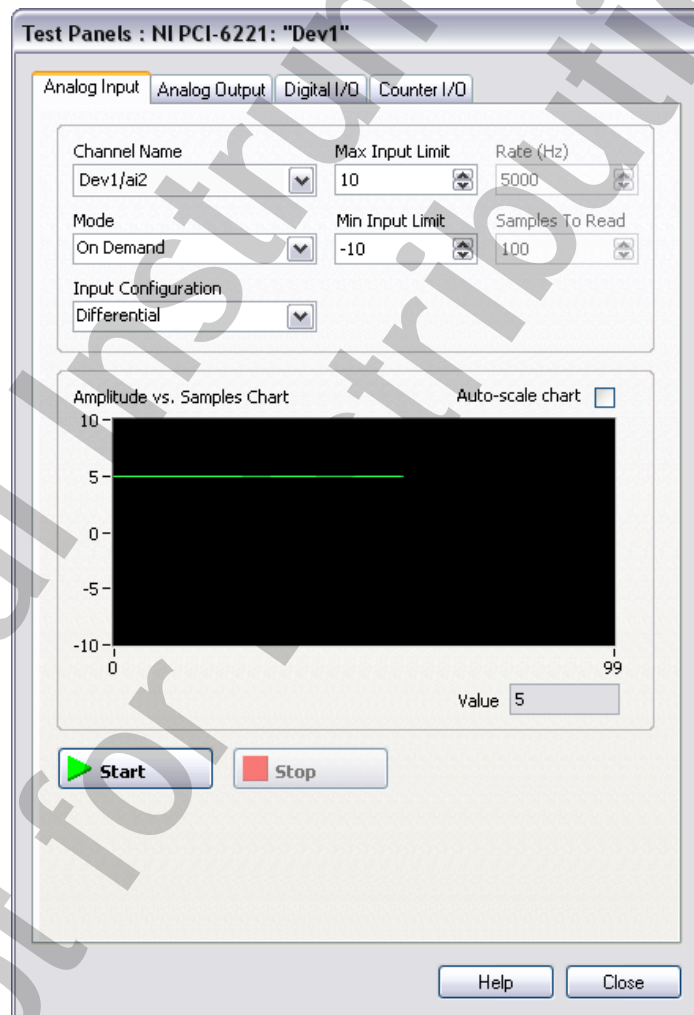

Figure 2-3. Analog Input Test Panel
- ☐ Click the **Start** button. You should see 5 V displayed on the graph, as shown in Figure 2-3.